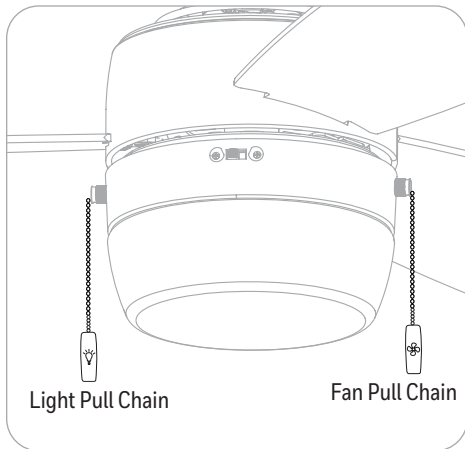

Figure 6.1
- The fan pull chain has four positions to control fan speed. One pull is high, two is medium, three is low and four turns the fan off. The light pull chain has two positions to control the light, on and off (Figure 6.1).